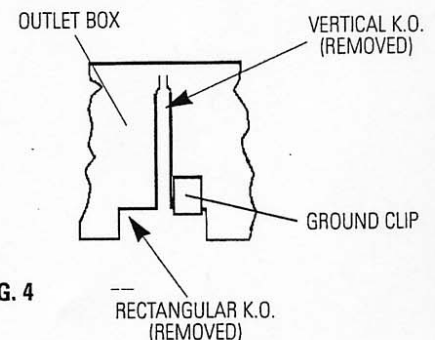

FIG. 4
2. Attach a bare or green color insulated 12 AWG solid copper GROUND WIRE approximately 8" to OUTLET BOX using GROUND CLIP (supplied). (Fig. 4). Bend unattached end of wire away from OUTLET BOX.